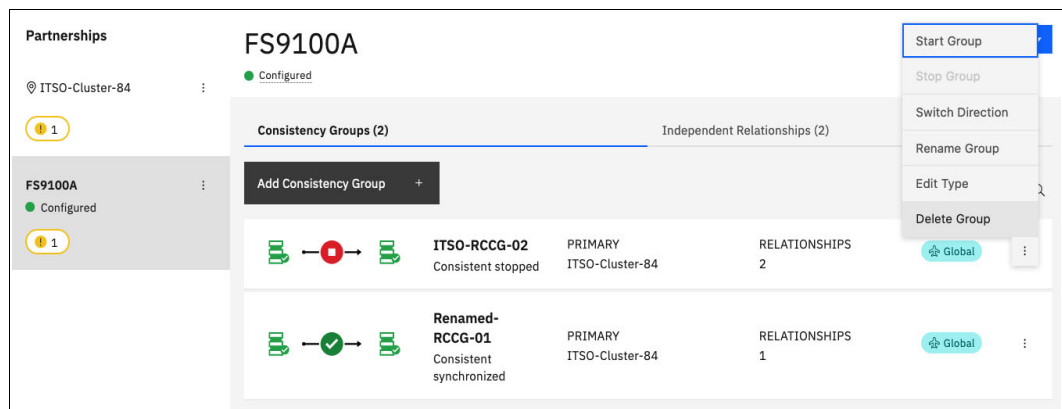

Figure 10-147 Deleting a consistency group
2. Select the target RC system and go to the **Consistency Groups** tab. Next, click the three dots for the consistency group that you want to delete and select **Delete Group**, as shown in Figure 10-147.